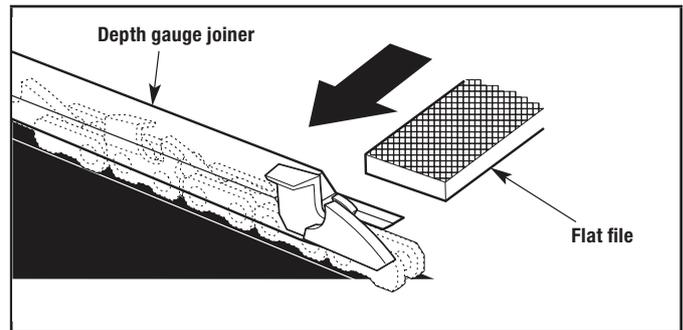

Figure 35
3. Use a depth gauge tool (not included) to measure the depth gauge clearance (Fig. 35) of each cutter. The depth gauge clearance must be maintained at 0.025 inch (0.635 mm). The depth gauge clearance determines the depth at which the cutter enters the wood during operation and the size of the wood chips produced. Too much clearance increases the chance of kickback. Too little clearance decreases the size of the wood chips, thus decreasing the ability to cut.
3a. Use a 0.025 inch (0.635 mm) depth gauge joiner and a flat file (tools not included) to lower the depth gauge to the correct clearance (Fig. 35).